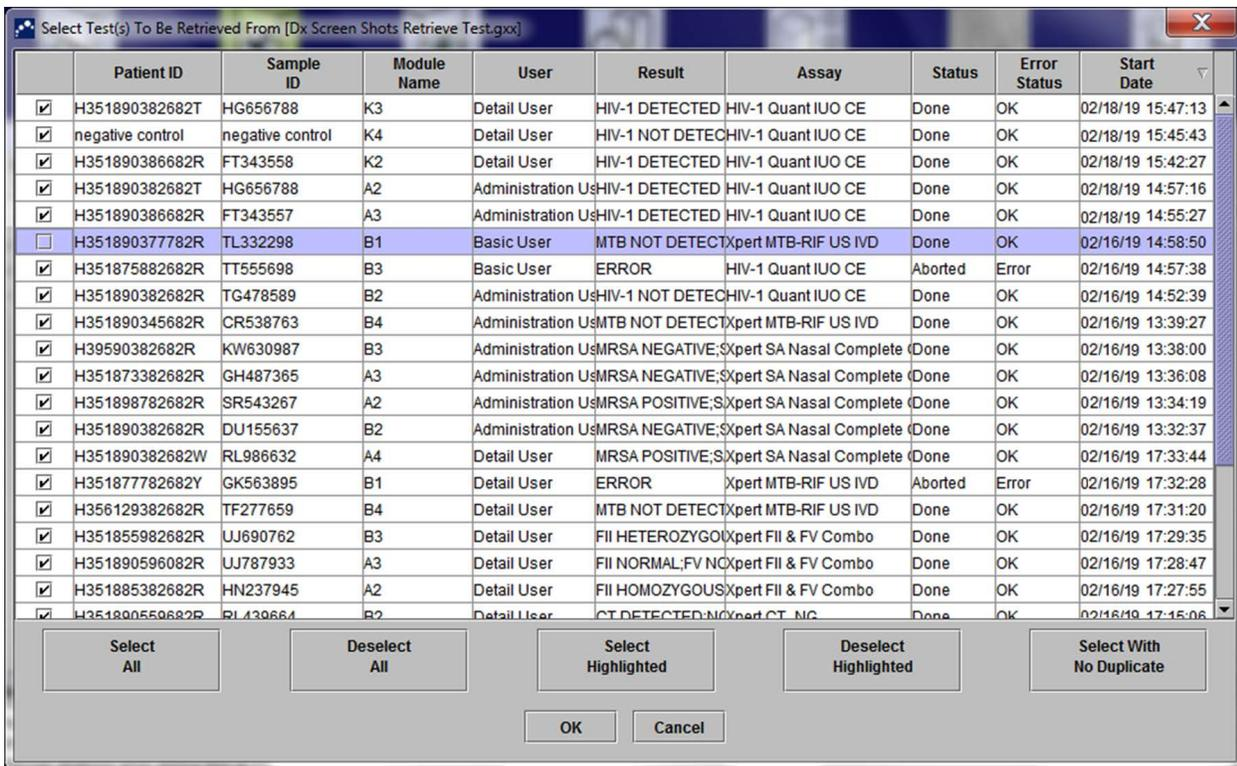

Figure 5-71. Select Test(s) to Be Retrieved Dialog Box
3. The Select Test(s) To Be Retrieved From dialog box appears (see Figure 5-71). The tests that already exist in the current database appear in red text.